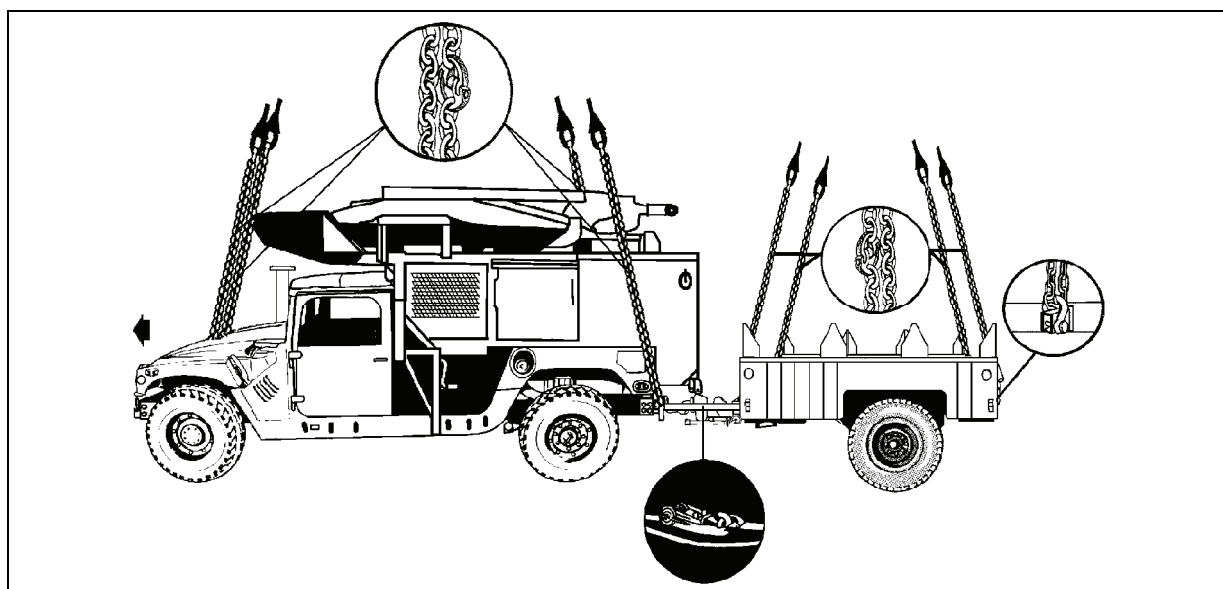

Figure 5-17. Trojan Spirit Lite (V)2 Central Communications, AN/TSQ-226 (V)2 on M1113 HMMWV and M1102 Cargo Trailer
- **Rigging.** Rig the load according to the steps in Figure 5-17.